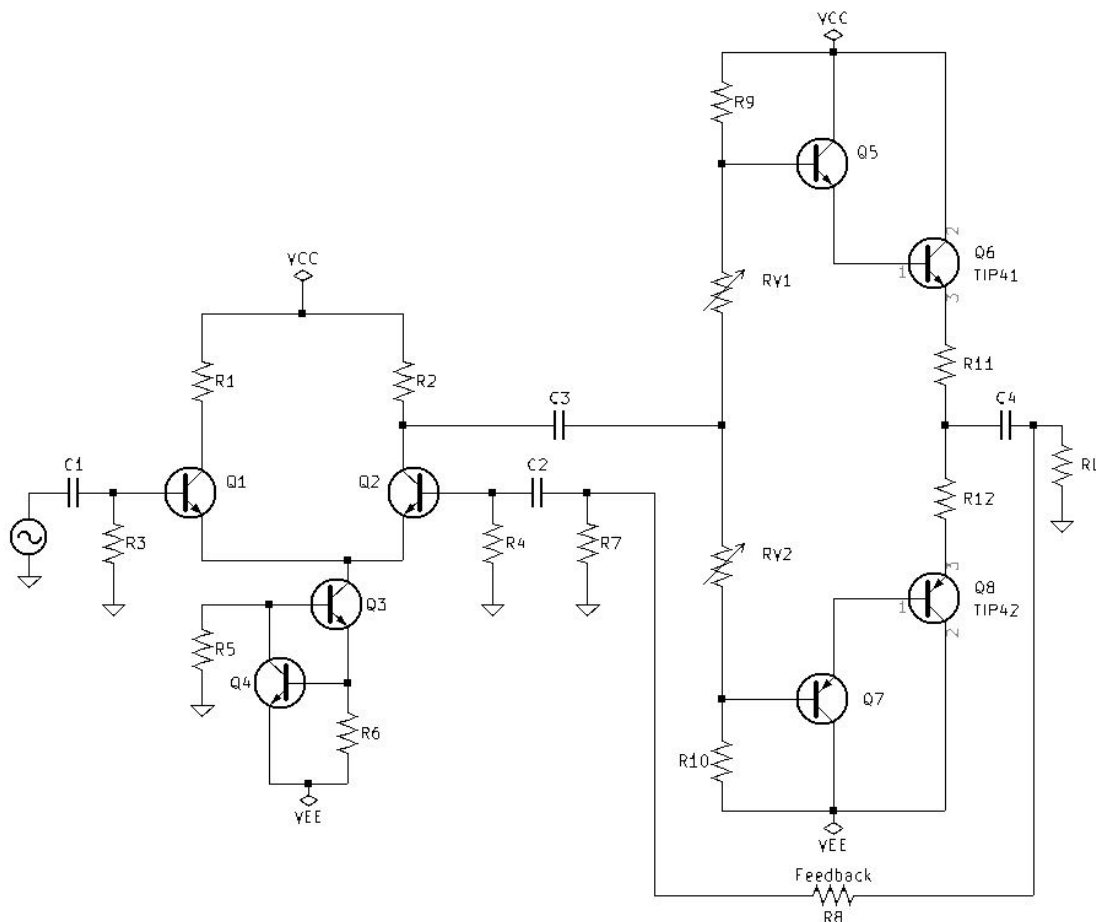

Figure 6.4: Differential Amplifier & Push Pull Circuit.
1. See Figure 6.4 *Differential Amplifier & Push Pull Circuit* on 61.